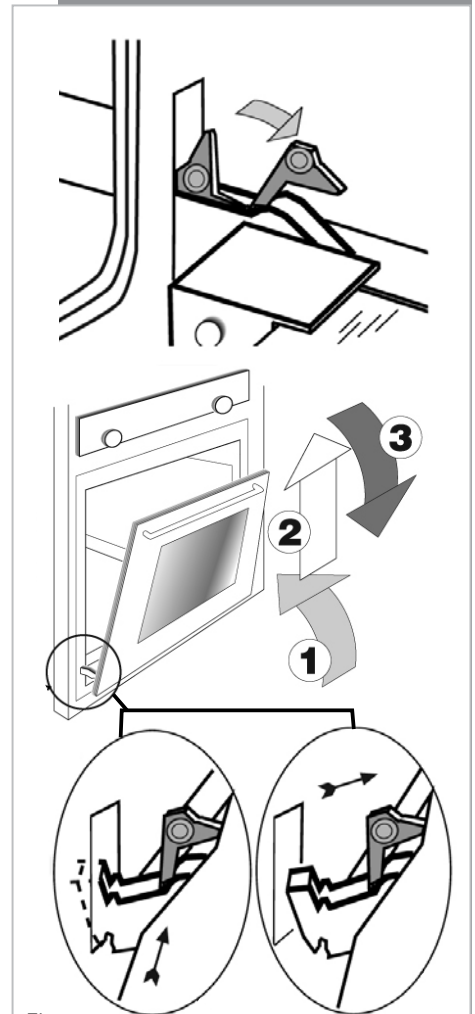

Fig. 5
- Open the lever on the left and right hinges (as show in figure 5).